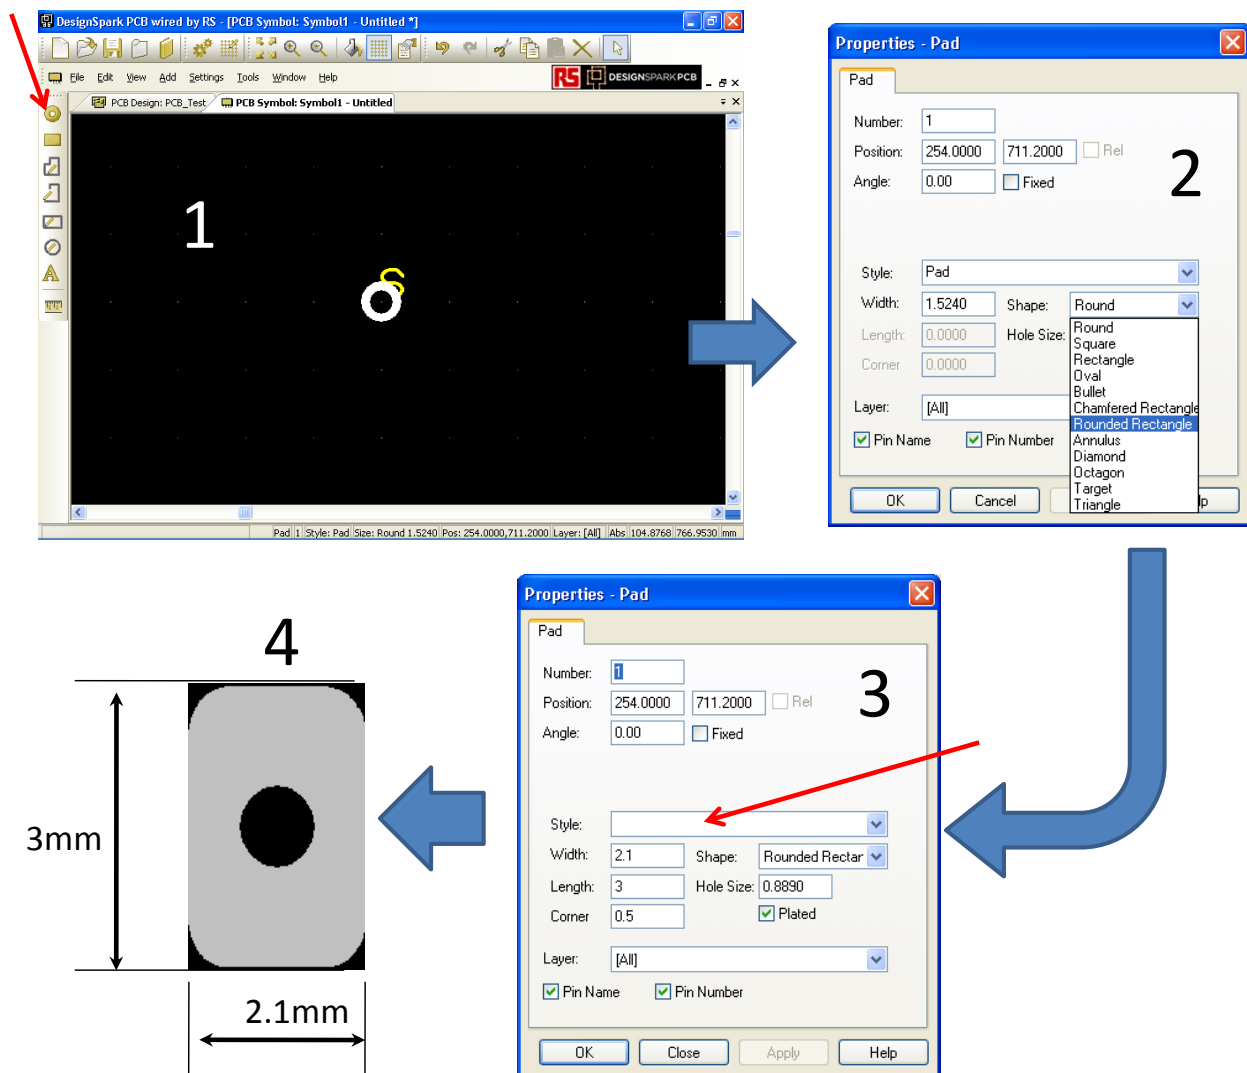

Figure 6-25: Library Creation – Add Pad
25. We start by adding a through-hole pad from the “Add” – “Pad” selection from the top menu bar (or by pressing <F4>), as shown in Figure 6-25 (image 1).